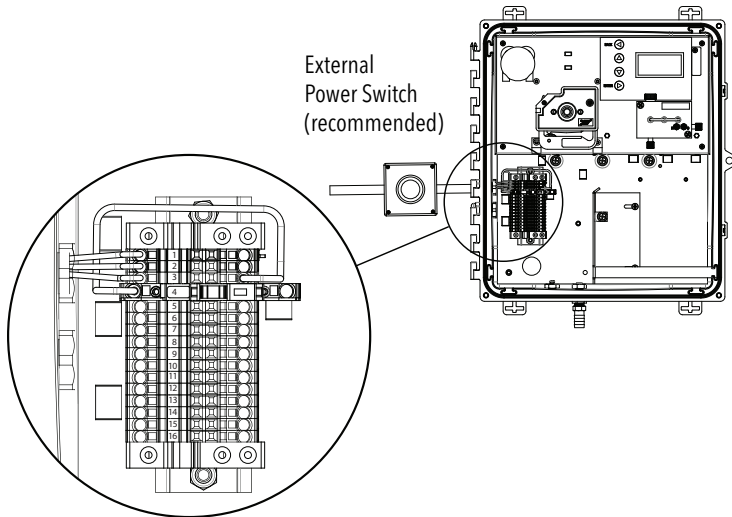

Figure 4: 3017M terminal block and external power switch
6. The terminal block connectors are opened by pushing the 1/16" screwdriver into the small, square opening adjacent to the opening for the wire. See **Figure 4**.